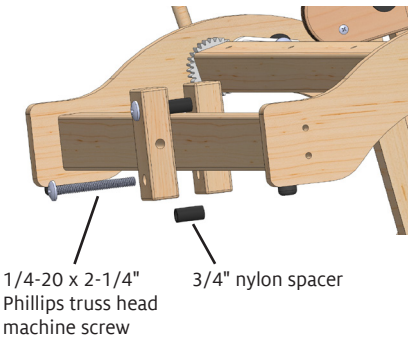

FIGURE 13: INSTALL CORD GUIDE ON BRACE
13. Insert the remaining 1/4-20 x 2-1/4" Phillips truss head machine screw through the other hole in the "empty" block (Figure 13). Add the remaining 3/4" nylon spacer to the shaft. Attach the screw into the nut of the other cord guide block, then tighten both screws going into this block.